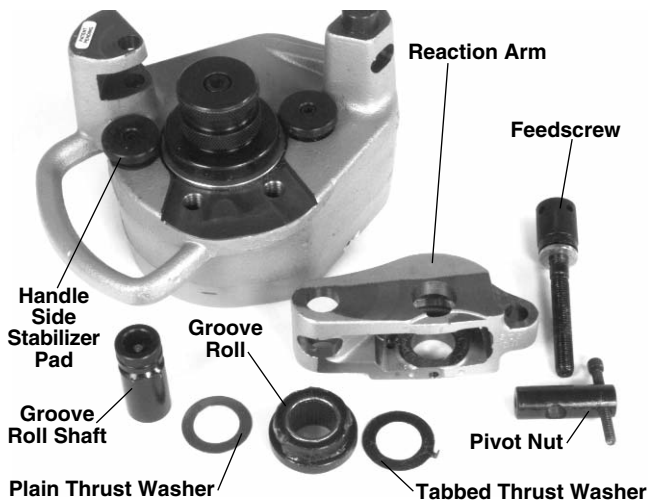

Figure 16 – Parts Call Out
6. Remove feedscrew from pivot pin. Remove pivot pin from reaction arm (Figure 16).
7. Remove the hex screw retaining the drive roll with a 5/16" hex key. If removing the 4" – 6" Sch. 40 or 8" – 12" Sch. 10 roll set, remove the drive roll support bolts using a 3/8" hex key (Figure 16).
8. Remove stabilizer pad on the handle side of the 915 using a 3/16" hex key. If removing the 8" – 12" Sch. 10 roll set remove both stabilizer pads (Figure 16).